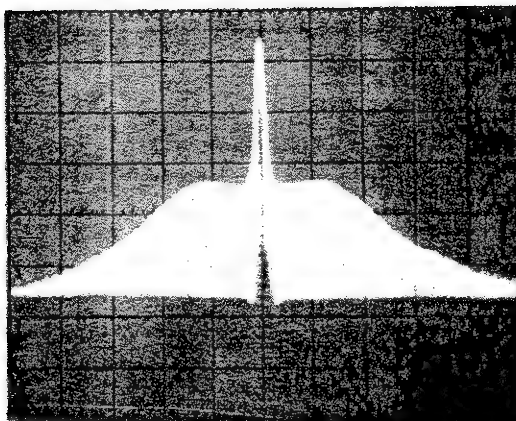

Figure 5-15. Loop Gain Adjustment Waveform
- c. Set the Signal Generator/Sweeper to 11.5 MHz CW at -35 dBm and symmetrical sweep width to 3 MHz. The analyzer display should be approximately as shown in the typical waveform shown in Figure 5-15. Adjust the A4A6 GAIN control (A4A6R2) for the response shown.